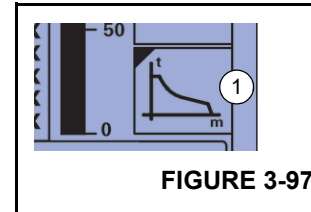

FIGURE 3-97
In the lifting capacity submenu, press the F8 button (1) (Figure 3-97) once.